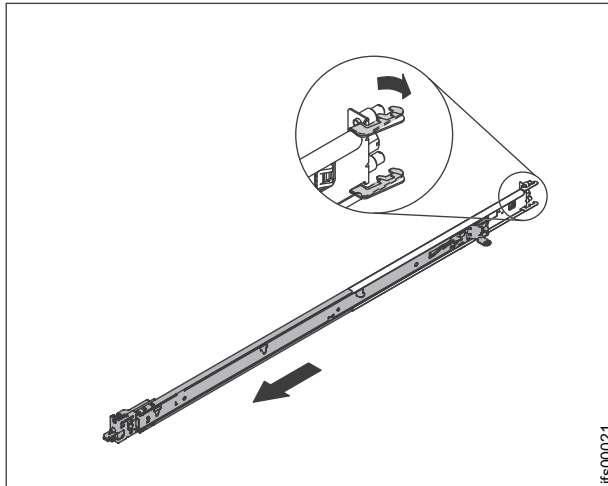

Figure 38. Opening the rear slide rail hooks
3. Each slide rail is marked with either an R (right) or an L (left). Select one of the slide rails and pull the rear bracket all the way back. If a thumbscrew is installed in the slide rail, remove it. Refer to Figure 38 on page 84.